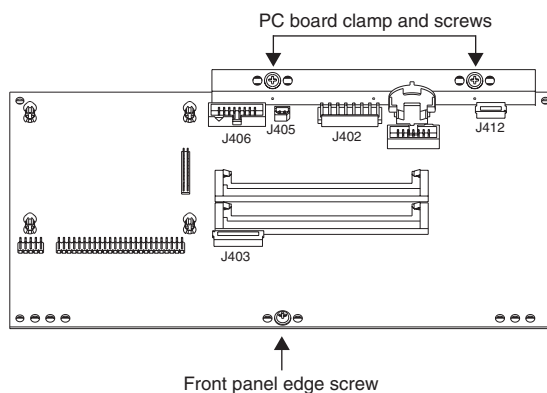

Figure 4-10 Engine Board, screw locations
- Two of the screws that secure the left enclosure support wall also secure the front panel edge of the Engine Board. You have already removed the enclosure support wall, but one screw remains securing this edge of the board. See Figure 4-10, and remove the remaining screw.
2. Align the center screw hole on the front panel edge with the thread marks in the extrusion and install the screw that secures the front panel edge. See Figure 4-10.